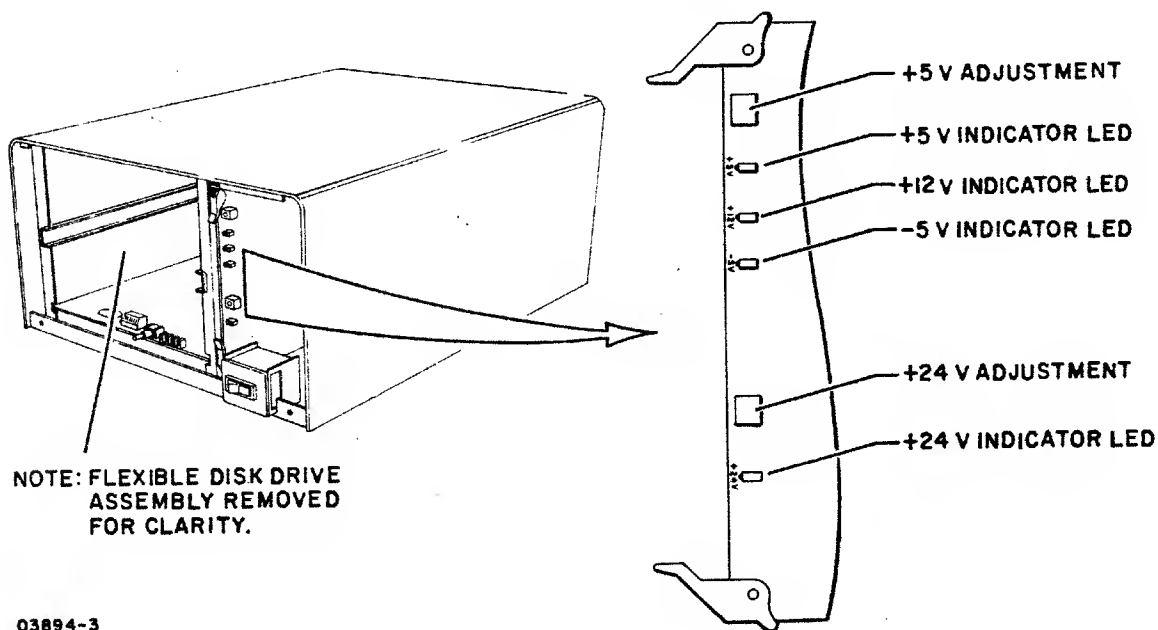

Figure 3-5. Power Supply Voltage Indicators
1. Apply power to disk subsystem (procedure 1) and verify that four LEDs on power supply are lit (figure 3-5).